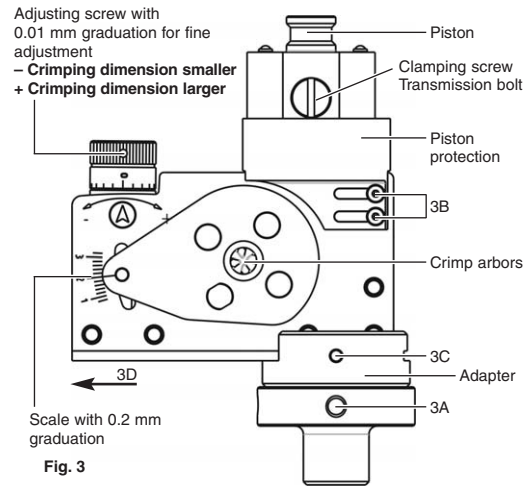

Fig. 3
- Unscrew the clamping screw of the transmission bolt (Fig. 3) from the piston and remove.
- Set the gauge dimension (1 or 2 mm) with the adjusting screw (Fig. 3) as per four-armor crimping unit. Please note that a larger crimping dimension must always be selected than that to be set, e.g. select 2.2 mm and adjust down to crimping dimension 2.0 mm.
- The crimp arbor depth (clockwise: crimping dimension reduced, counterclockwise: crimping dimension increased) is adjusted by turning the adjusting screw (Fig. 3). Here, the following applies: Every graduation mark on the adjusting screw is 0.01 mm, so that when the adjusting screw is turned one full turn, a feed of 20/100 mm (2/10 mm) is realized. The values can be read off of a scale on the four-armor crimping unit (Fig. 3).